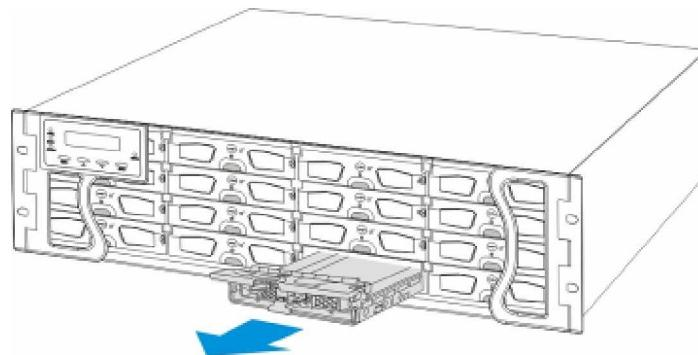

Figure 5-32: Removing a Drive Tray
Step 4. ***Remove the drive tray with the hard drive***, gently and carefully withdrawing the drive tray with hard drive from the chassis. (See *Figure 5-32*)